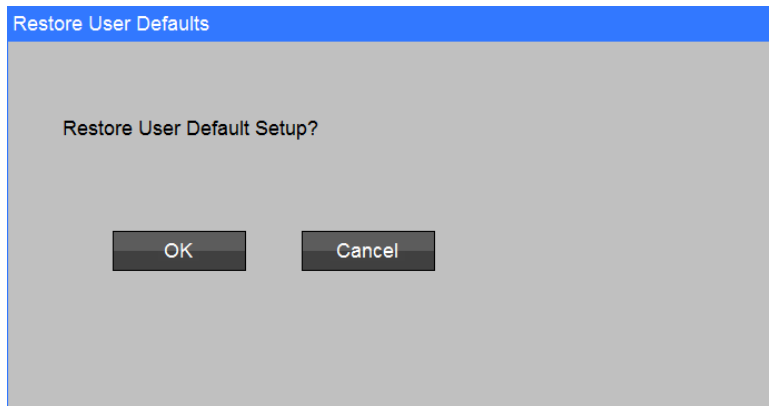

Figure 46: Restore User Defaults Screen
- 2) Press Restore User Defaults to restore the default values (refer to Figure 46).